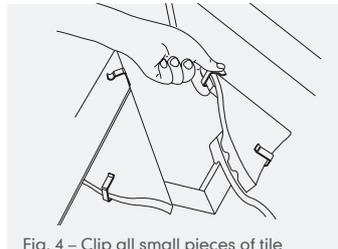

Fig. 4 - Clip all small pieces of tile along hip
- 4 Ensure that all raking cut roof tiles along the length of hip are secured with the C clips and Tail clips provided (sold separately) (Figs. 4 and 5).